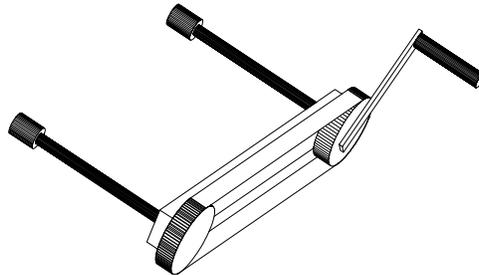

Figure 11.12 Crank (CR) for retractor HIMP-2.
To turn the nuts on the two force bars synchronously to get a straight guided movement of the sensor, a Crank Unit (CR) is supplied, Figure 11.12.